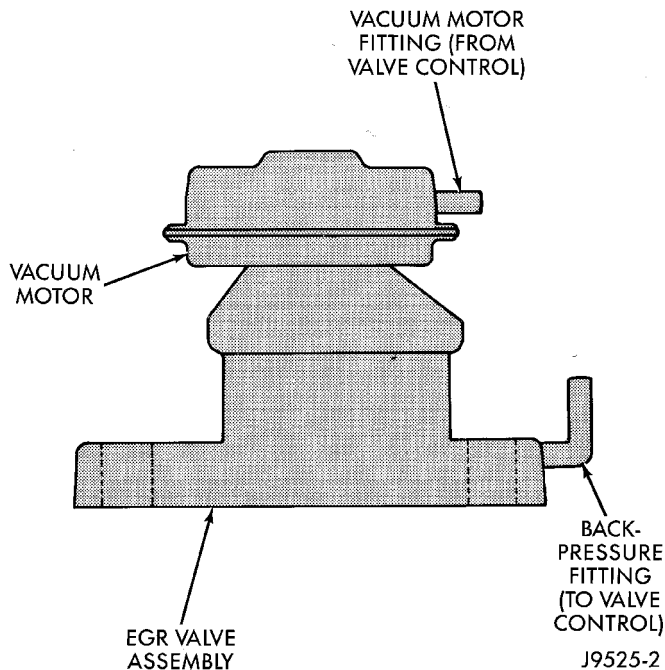

Fig. 4 Typical EGR Valve
(1) All engines are equipped with two fittings located on the EGR valve (Fig. 4). The upper fitting (located on the vacuum motor) supplies engine vacuum to a diaphragm within the EGR valve for valve operation. The lower fitting (located on the base of the EGR valve) is used to supply exhaust back-pressure to the EGR valve control.
(2) Disconnect the rubber hose at the vacuum motor fitting (Fig. 4) on the top of the EGR valve vacuum motor.
(3) Connect a hand-held vacuum pump to this fitting.
(4) Start the engine.
(5) Slowly apply 5 inches of vacuum to the fitting on the EGR valve motor.
(6) While applying vacuum, a minimum of 3 inches of vacuum, and with the engine running at idle speed, the idle speed should drop or the engine may even stall, if the vacuum is applied quickly. This is indicating that exhaust gas is flowing through the EGR tube between the intake and exhaust manifolds.
(7) If the engine speed did not change, the EGR valve may be defective, or EGR tube may be plugged with carbon, or the passages in the intake and exhaust manifolds may be plugged with carbon.